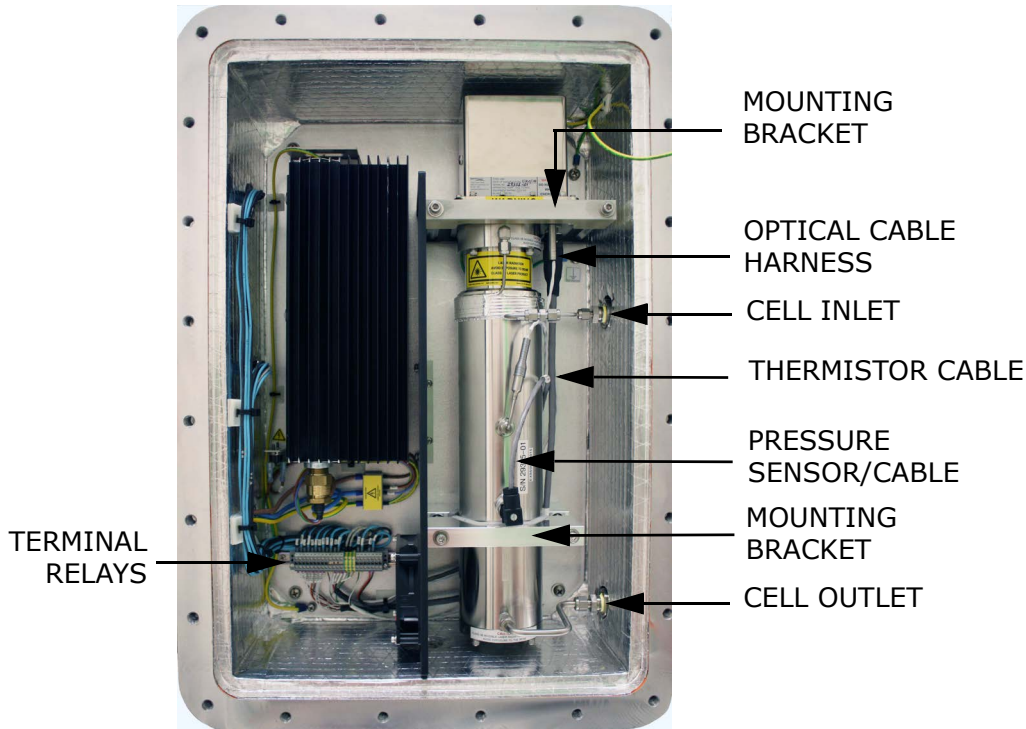

Figure B-4 Cell cabinet interior
5. Open the door to the measurement cell enclosure. Refer to Figure B-4.